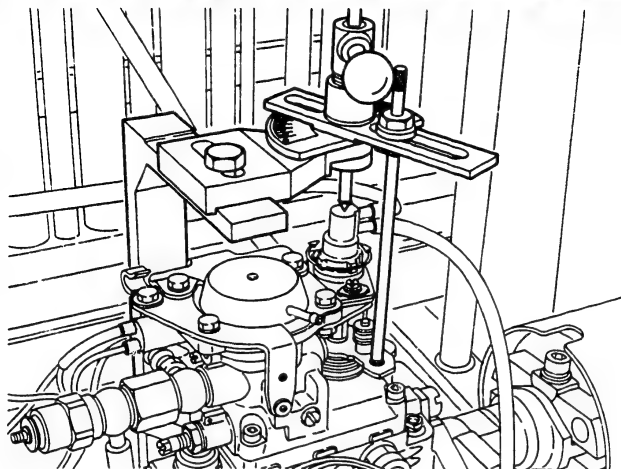

Fig. 139 Adjusting the V.R.V. position
- 3. Then, while supplying the specified negative pressure, adjust the V.R.V. position using its elongated slot so that the V.R.V. outlet's negative pressure is as specified. (Fig. 139)